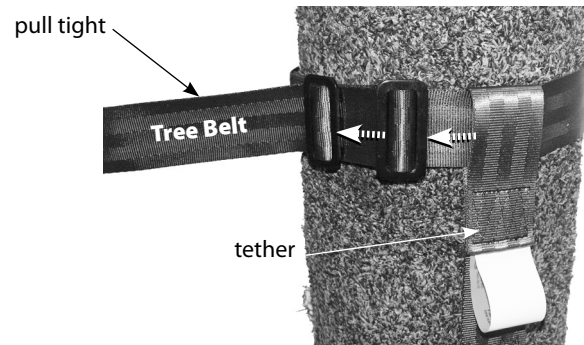

Figure 9
1. While wearing your Full Body Harness (FAS) correctly, wrap the tree belt through the loop end of the tether and around tree. Take the tail end of the tree belt and feed it through the (2) adjustment slides on tree belt. **SEE FIGURE 9.** Pull the tail of tree belt tight.
NOTE: Be sure the (2) adjustment slides are facing away from tree, preventing any obstruction. Do not position tether on or between the (2) tree belt adjustment slides. SEE FIGURE 9.